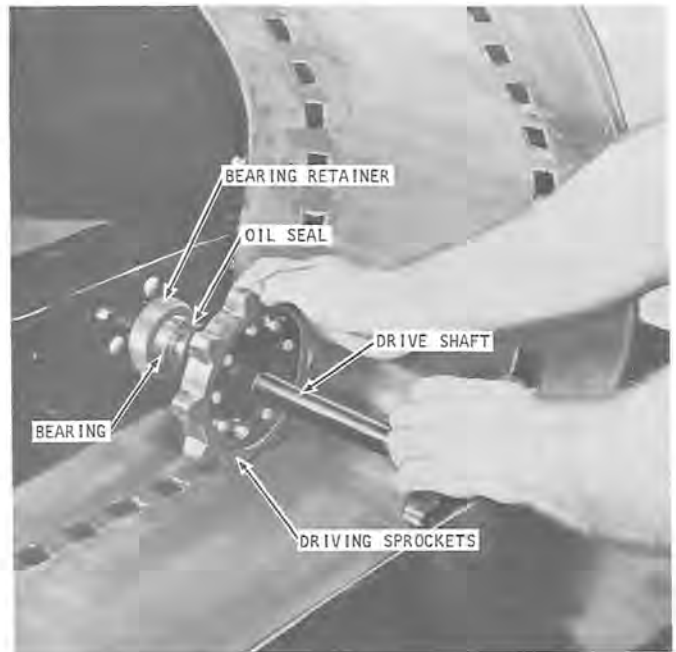

Figure 12
6. Move the drive shaft and sprocket assembly toward the chain housing side until the opposite end of the shaft clears the bearing retainer and plate assembly (figure 12). Remove the drive shaft and sprocket assembly.